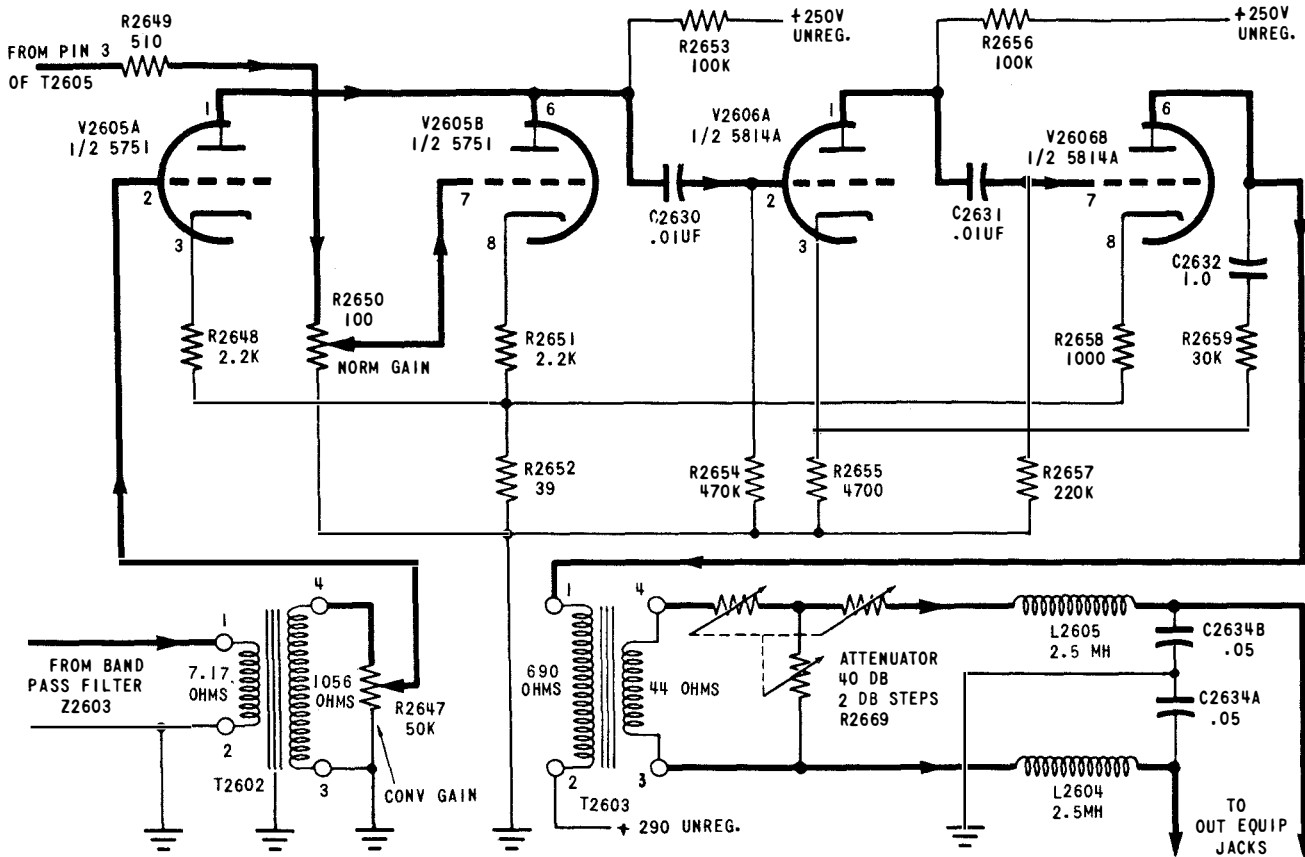

Figure 2-19. Schematic Diagram of Amplifier of Electronic Frequency Converter CV-243A/FCC-3
d. AMPLIFIER. - Figure 2-19 shows the amplifier section of the Electronic Frequency Converter CV-243A/FCC-3. The purpose of the amplifier is to provide gain to offset the losses in the modulator and filter. With the gain of the amplifier properly adjusted, the level of the individual signals at the input to the equipment are the same as at the output. An overall gain of about 30 db is provided from the input of the amplifier section to the output. The converted signals are applied to the grid of 5751 type tube V2605A and the normal signals are applied to the grid of V2605B. The signals are then amplified and added across a common 100,000 ohm plate resistor R2653. An input level control for the converted signals is provided in the grid circuit of V2605A by a 50,000 ohm potentiometer R2647. Input level of the normal signals is attenuated by a 510 ohm resistor R2649 and made adjustable by a 100 ohm potentiometer R2650 in the grid circuit of V2605B. Current feedback is applied to the cathodes of V2605A and V2605B by the 39 ohm resistor R2652, and 2200 ohm resistors R2648 and R2651 supply cathode bias to both tubes.